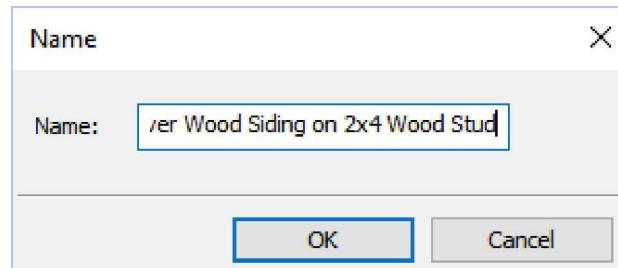

FIGURE 5-2.13 New wall type name
26. Enter **Exterior – Wood Shingle over Wood Siding on 2x4 Wood Stud** for the new wall type name, and then click **OK** (Figure 5-2.13).